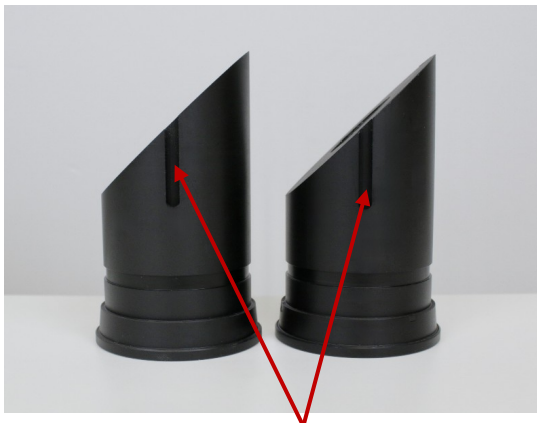

Figure 3.2.4 Bushing keyways
- Bushings are keyed so as to match the angles on the bushings. **Figure 3.2.4**